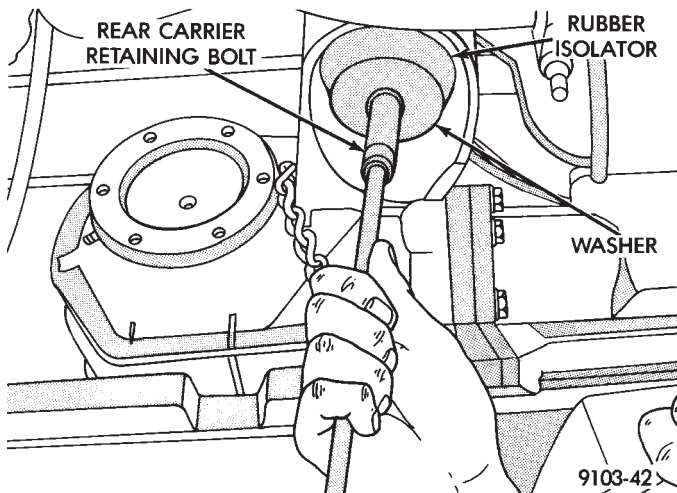

Fig. 4 Rear Drive Line Module Assembly Rear Mounting Bolts
(8) Remove rear drive line module assembly rear mounting bolts (Fig. 4).